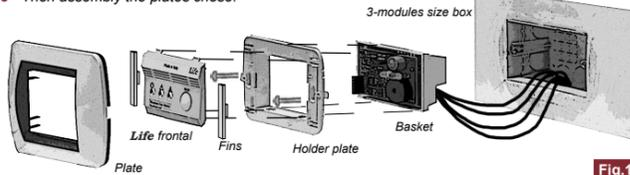

Fig.1
**Life** have to be installed directly on the flush mounted 3-modules size box (Fig.1).